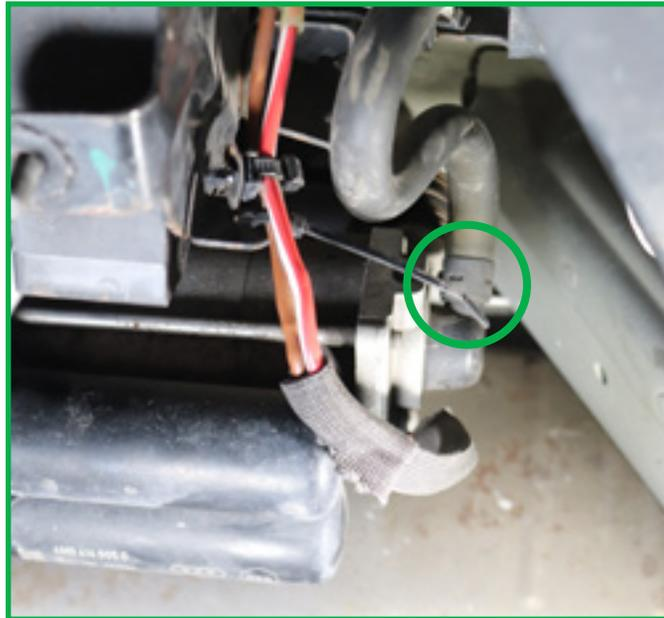

FIGURE 6
5. Disconnect the hose by removing the clamp. (Figure 6)